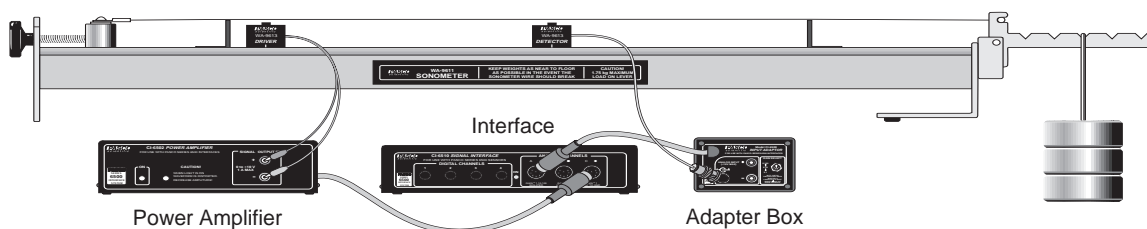

Figure 5.1 Using the Power Amplifier and Series 6500 Interface
- ① Connect the Power Amplifier DIN plug to channel C of the interface. Connect the Sonometer Driver Coil to the output of the Power Amplifier.
- ② Connect the BNC plug on the Sonometer Detector Coil to the BNC jack on the CI-6508 Input Adapter Box, and the DIN plug on the Adapter Box to channel A of the interface. Turn the amplification select switch on the CI-6508 to 100X. (See Figure 5.1.)